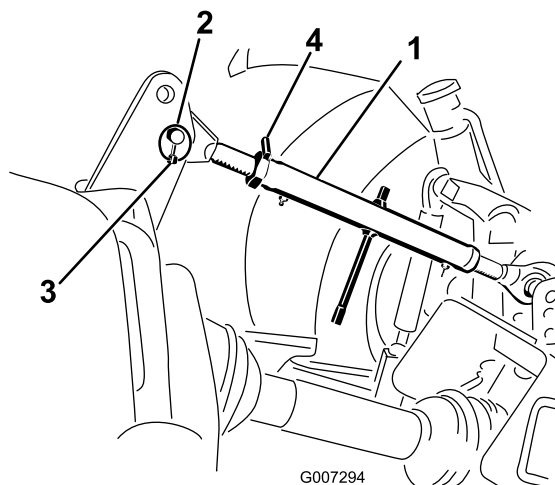

Figure 6
1. Connect upper link to lower hole in bracket and secure with link pin and lynch pin (Figure 6).
3. Rotate the upper link to tighten the link. Adjust until front of aerator frame is 90 degrees from horizontal (Figure 6).